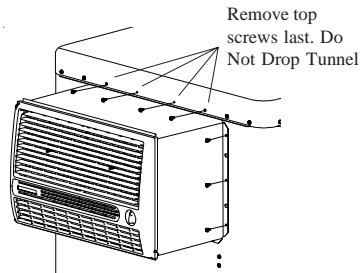

Fig. 10
2. Remove the top 4 middle screws of the top pan while holding the tunnel in place (Fig 10). Be careful not to drop the tunnel or damage to the electric cords could occur. You may need to loosen other screws in the top pan to make it easier to remove the tunnel.